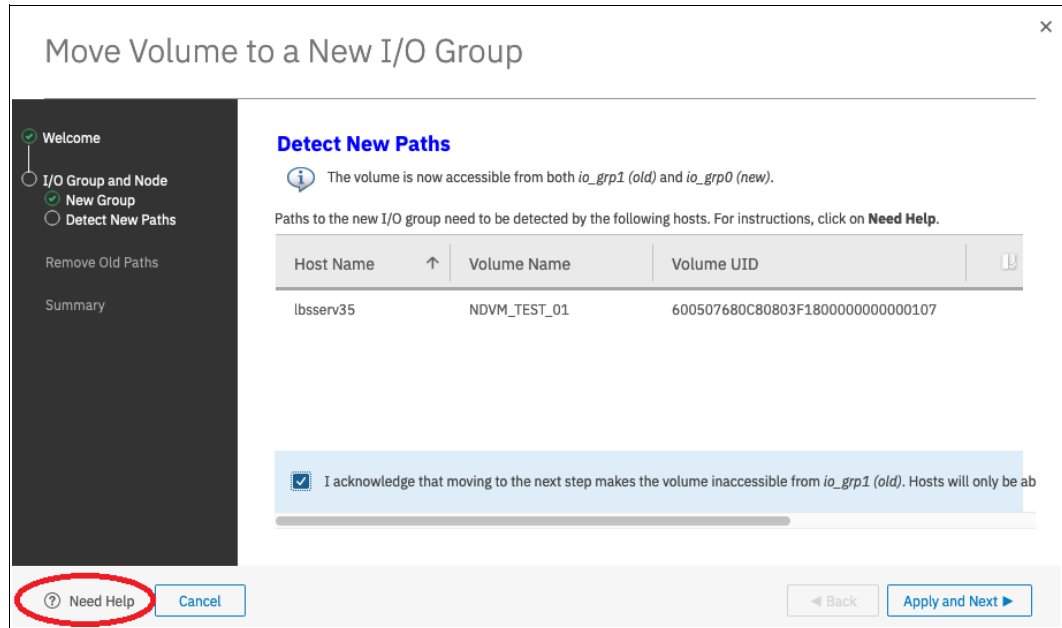

Figure 6-71 Modify I/O Group for a mapped volume wizard: Validation
3. Click **Close** to proceed to the validation window, as shown in Figure 6-71 on page 367. Click **Need Help** to see information about how to prepare the host for the volume move. After the host is ready for the volume path change, check the box confirming that path validation was performed on the host.